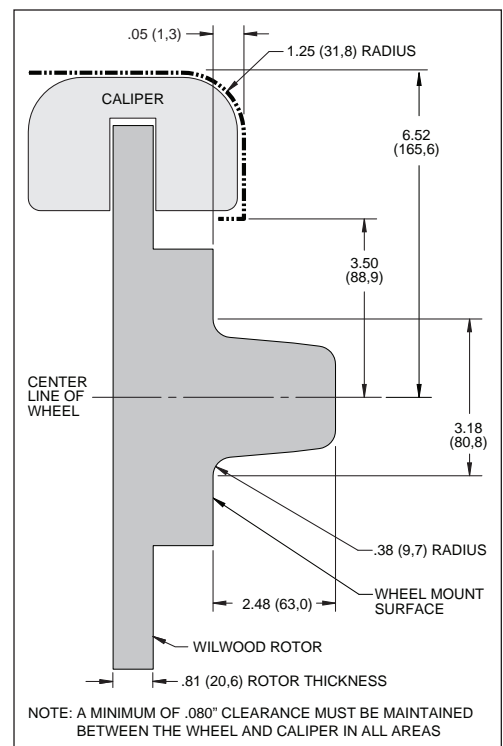

Figure 2. Wheel Clearance Diagram
- Review the Wheel Clearance Diagram (Figure 2, page 3) to verify that there is adequate clearance with the wheels you will be using with the installation.
- Verify wheel clearance utilizing Figure 2.
- WARNING:** The wheel contact surfaces must seat completely on the face of the hub. If any contact surfaces overhang the outside diameter of the hub face, a 6.60" diameter x .20" thick steel spacer (item 26, Wilwood P/N 300-11961) MUST be used between the wheel and the hub.